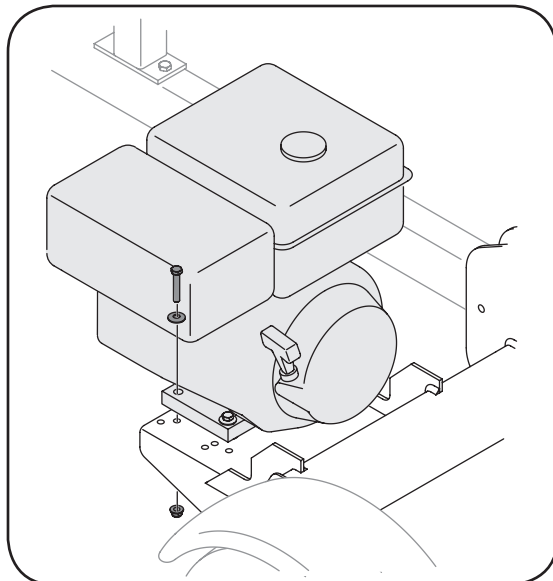

Figure 3-8
3. Secure the engine and pump assembly with four hex bolts, bell washers, and lock nuts found packed with the Operator's Manual. Using a torque wrench, tighten to 14 ft-lbs. See Figure 3-8.